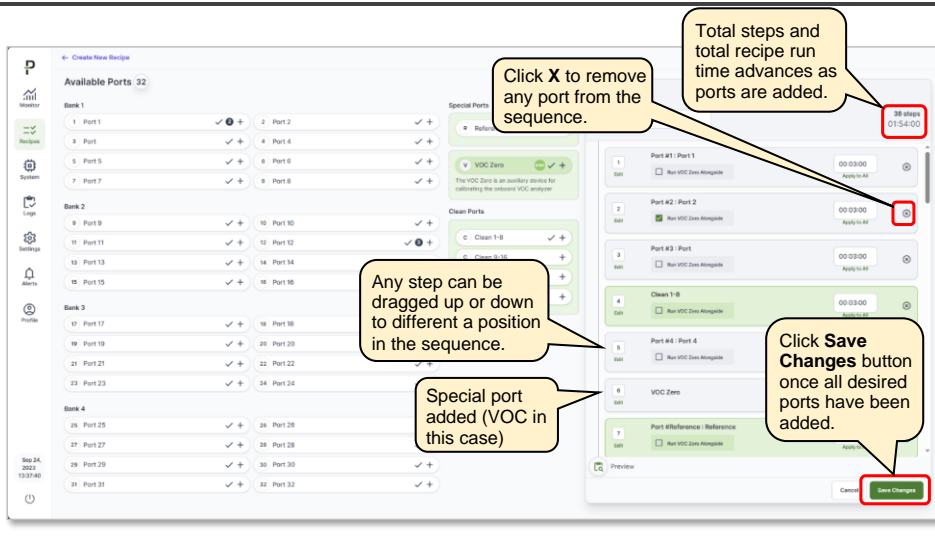

Figure 30: Recipe Completion
5. Add any other ports desired to the sequence as shown in Figure 30 below. As ports are added, the **Step Count** total and **Total Recipe Time** at the top of the sequence list advances. To change each **Step Duration** click in the time field. A scroll bar appears when the number of steps exceeds the window space.
Special Ports available can be added as steps to the sequence (Figure 30).
- 14. Once building the recipe is completed, click the **Save Changes** button (Figure 30).